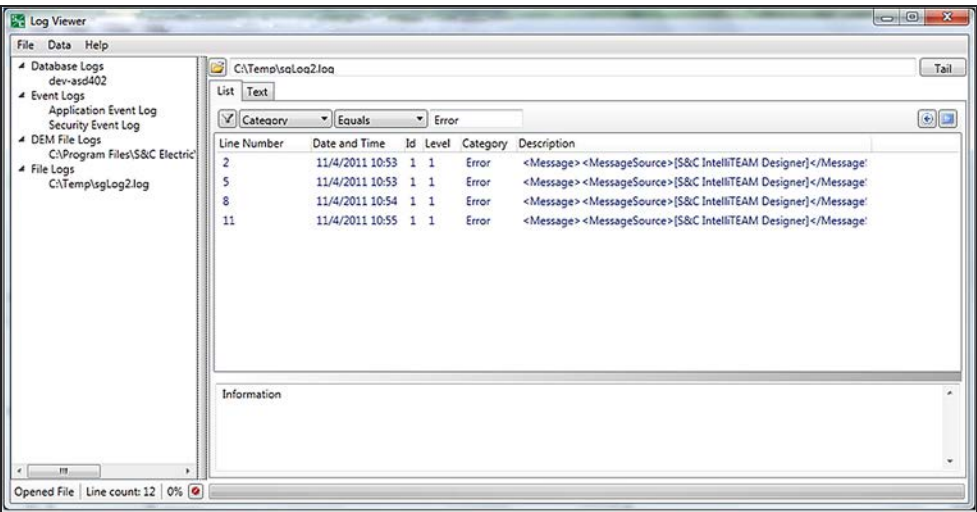

Figure 137. Data filtered to display category entries equal to “Error.”
STEP 6. The category can be filtered by the Equals filter operator. See Figure 137.